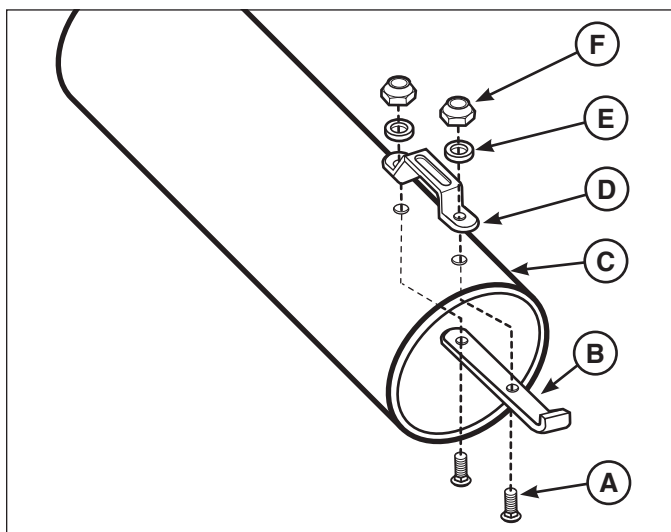

Figure 12
1. Insert the two remaining 1/4 x 3/4" carriage bolts (A, Figure 12) through the handle base (B), catcher tube (C) and handle (D).
2. Secure with the internal tooth lock washers (E) and hex nuts (F).